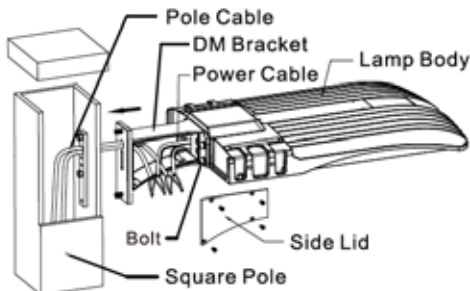

Figure 3-1
- a. Open the side lid of direct bracket, let the power cable go through the direct bracket. Fix the direct bracket to the end of lamp body with bolt. Let the pole cable go through the direct bracket. (Figure 3-1)